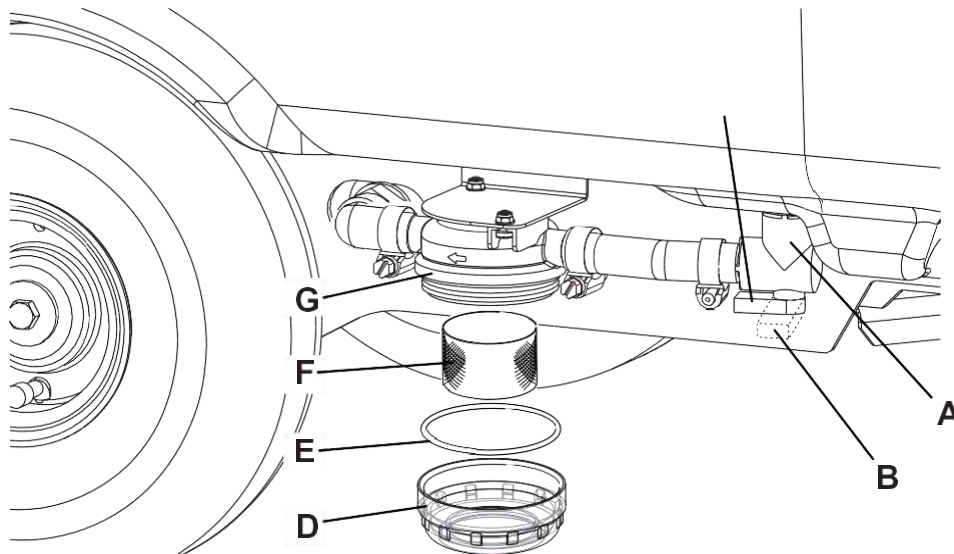

Figure 14
2. Turn off the machine by pressing and holding the switch (66) for nearly a second.
3. Close the solution tap (A, Fig. 14) under the machine, behind the left rear wheel. The tap (A) is closed when it is in the position (B) and it is open when it is in the position (C).
4. Remove the transparent cover (D) and the gasket (E), then remove the filter strainer (F). Clean and install them on the support (G).